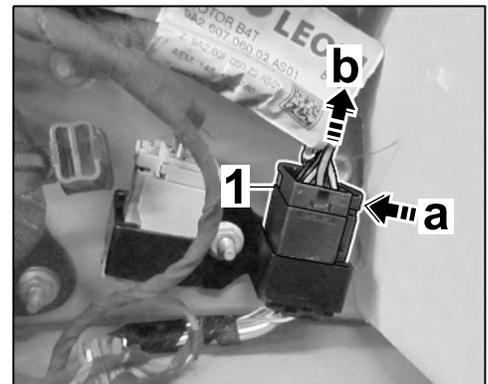

Figure 4
- 2.3.1 Disconnect electric plug connection. To do this, open the locking mechanism ⇒ *Figure 4 -a-* and pull out the plug socket ⇒ *Figure 4 -b-*.